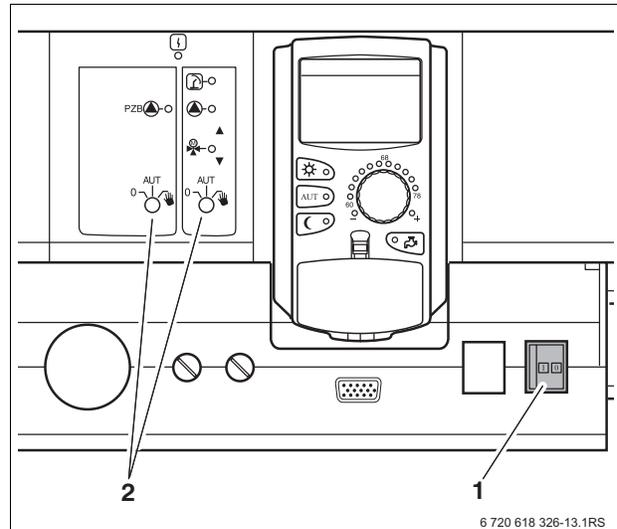

Fig. 8 On/Off switch
- Check that the control panel ON/OFF switch (→ Fig 8, [1]) and the manual switches on the installed modules (→ Fig 8, [2]) are set to "I" and "AUT".
- Switch the control panel ON by setting the ON/OFF switch to "I" (→ Fig 8, [1]).
- Switch the control panel OFF by setting the ON/OFF switch to "0" (→ Fig 8, [1]).